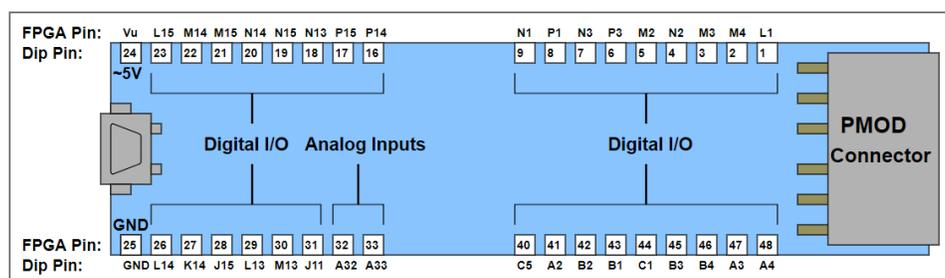

Figure 4: CMOD-Spartan 7 Board Orientation and Pin Numbering
- 1.2. Place two of the 7-segment displays and the Spartan 7 FPGA on your breadboard. How should the display be connected to the FPGA? What connections need to be made? Are resistors needed for current management? (**Note:** Consult Spartan pinout diagram in Figure 4) Make the necessary connections and wire up 2 seven segment displays on your breadboard.
- 2.5. In order to use the Spartan 7 I/O (In/Out) pins, you will need to assign the desired pins to correspond to your code's variables in Vivado. Familiarize yourself with the orientation and numbering convention of the board, shown in Figure 4. Consult Tables 3 and 4 for S7 features as well as pin numbering and names.